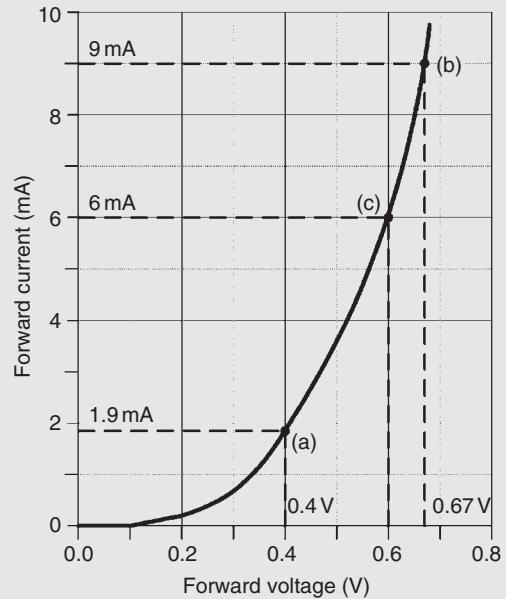

Figure 11.11
Problem 4. The forward characteristic of a diode is shown in Fig. 11.11. Use the characteristic to determine (a) the current flowing in the diode when a forward voltage of 0.4 V is applied, (b) the voltage dropped across the diode when a forward current of 9 mA is flowing in it, (c) the resistance of the diode when the forward voltage is 0.6 V, and (d) whether the diode is a Ge or Si type.
- From Fig. 11.11, when $V = 0.4 \text{ V}$, current flowing, $I = 1.9 \text{ mA}$